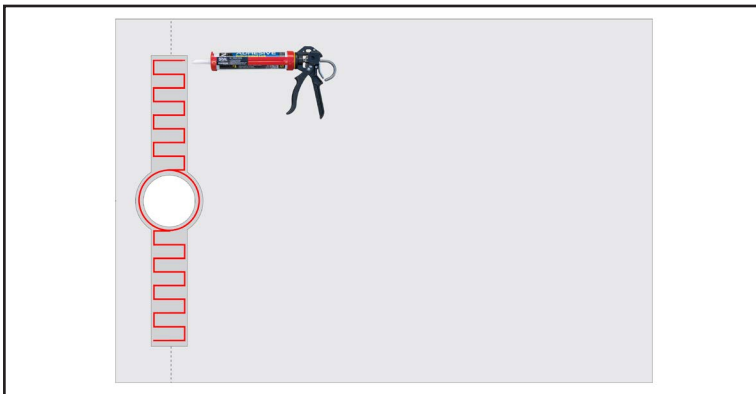
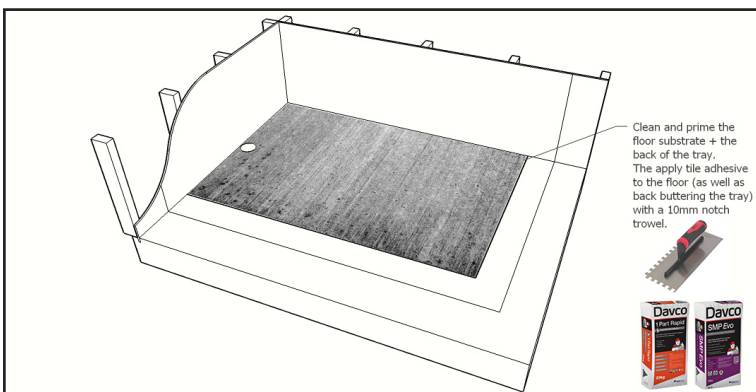

Fig. 4.2: Adhesion of the stainless steel using a solvent free polystyrene friendly construction adhesive such as Sikaflex®-123 MS Bond.
Fig. 4.3: Adhesion of the rest of the base (not including the stainless steel area) using Cement based, polymer fortified adhesive and a notch trowel.
**b)** Lightly sand the stainless steel area on the back of the tray and apply a solvent free polystyrene friendly construction adhesive such as Sikaflex®-123 MS Bond to the stainless steel area (See Fig. 4.2). Bed the rest of the tile tray using a cement based, polymer fortified adhesive. Ensure to both notch and back butter. If the floor is not level, use extra adhesive or levelling compound to compensate for variation. (See Fig. 4.3)